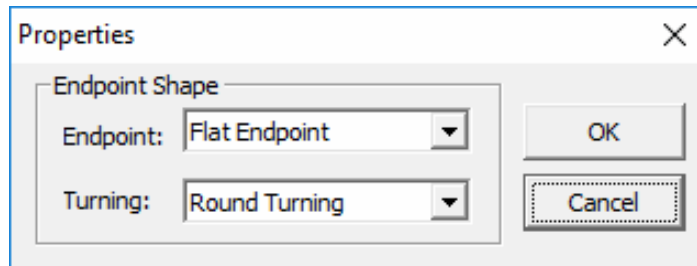

Figure 3-4 Dialog box “Properties”
3. Build a Pipe and click “Modify Endpoint Shape” in the its right-click menu, and will pop up a dialog box as Figure 3-4: